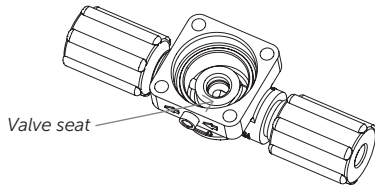

Figure 2.
7. Gently flush the valve seat or FlareMount seal detail within the valve manifold body (see Figure 2) with isopropyl alcohol (S6) and purge with CDA or nitrogen. Do not contact the sealing surface with a brush or a wipe, as resulting damage to the sealing surface may cause the manifold to leak.